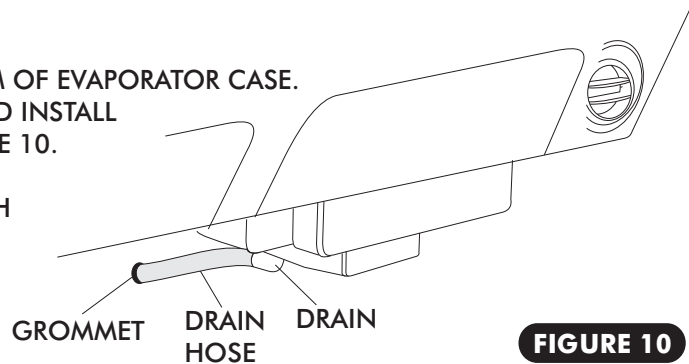

FIGURE 10
- LOCATE OEM HOLE IN FLOOR BOARD AND INSTALL 1 1/4 OD X 11/16 ID GROMMET SEE FIGURE 10.
- INSTALL DRAIN HOSE TO BOTTOM OF EVAPORATOR UNIT AND ROUTE THROUGH FIREWALL. SEE FIGURE 10.